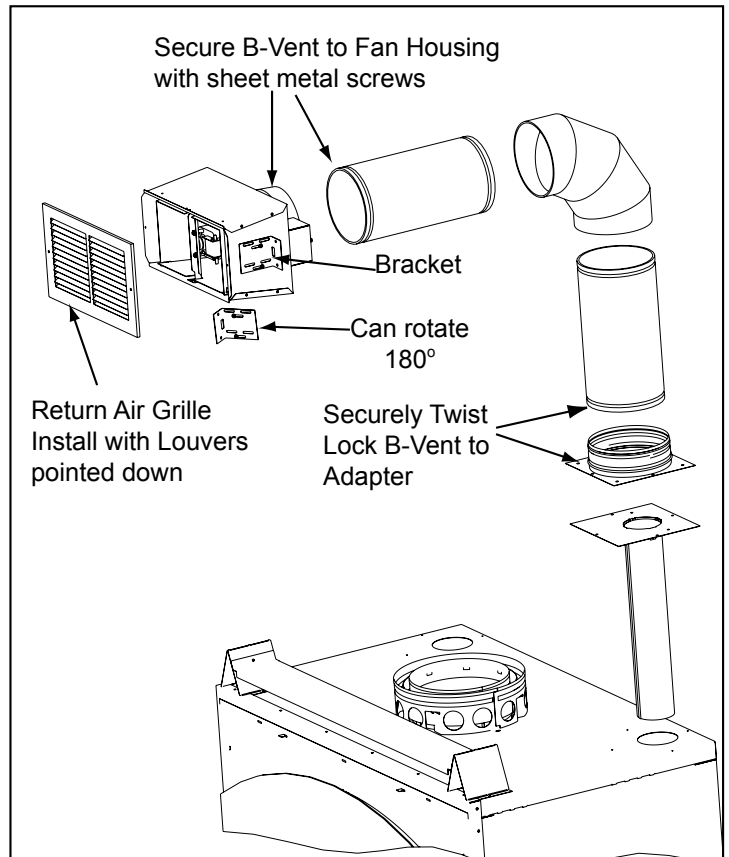

Figure 6
8. Determine the location for the air register and fan housing assembly. Cut a 7-5/8" x 13-5/8" (143 x 346mm) hole between framing members (wall studs or floor joists). The brackets can be rotated 180° and mounted to the back side of the 2 x 4 if necessary. See Figure 6.
Also screw the B-Vent to the outlet box on the fan housing. See Figure 6. Support duct at intervals of no greater than 4 ft (1 m) as required by local code.